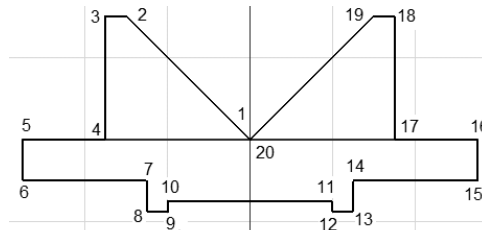

Figure 2-48 Sketch for Tutorial 1
9. Now you need to create the third line between points 3 and 4, refer to Figure 2-48. To do so, move the cursor downward in the graphics window. Enter **3** in the length input field, press TAB to switch to the angle input field and enter **90**; a line is created between the points 3 and 4.
10. Move the cursor toward left in the graphics window. Enter **2** in the length input field, press TAB to switch to the angle input field and enter **90** in it; a line is created between points 4 and 5, refer to Figure 2-48.
11. Move the cursor downward in the graphics window. Enter **1** in the length input field, press TAB and enter **90** in it; a line is created between points 5 and 6, refer to Figure 2-48.
13. Move the cursor downward in the graphics window. Enter **0.75** in the length input field, press TAB and enter **90** in the angle input field; a line is created between points 7 and 8, refer to Figure 2-48.
14. Move the cursor toward the right in the graphics window. Enter **0.5** in the length input field, press TAB and enter **90** in the angle input field; a line is created between points 8 and 9, refer to Figure 2-48.
15. Move the cursor upward in the graphics window. Enter **0.25** in the length input field, press TAB and enter **90** in the angle input field; a line is created between points 9 and 10, refer to Figure 2-48.
16. Move the cursor toward the right in the graphics window. Enter **4** in the length input field, press TAB and enter **90** in the angle input field; a line is created between points 10 and 11, refer to Figure 2-48.
17. Move the cursor downward in the graphics window. Enter **0.25** in the length input field, press TAB and enter **90** in the angle input field; a line is created between points 11 and 12, refer to Figure 2-48.
18. Move the cursor toward the right in the graphics window. Enter **0.5** in the length input field, press TAB and enter **90** in the angle input field; a line connecting points 12 and 13 is created, refer to Figure 2-48.
19. Move the cursor upward in the graphics window. Enter **0.75** in the length input field, press TAB and enter **90** in the angle input field; a line connecting points 13 and 14 is created, refer to Figure 2-48.
20. Move the cursor toward the right in the graphics window. Enter **3** in the length input field and **90** in the angle input field; a line connecting points 14 and 15 is created, refer to Figure 2-48.
21. Move the cursor upward in the graphics window. Enter **1** in the length input field, press TAB and enter **90** in the angle input field; a line connecting points 15 and 16 is created, refer to Figure 2-48.
22. Move the cursor toward the left in the graphics window. Enter **2** in the length input field, press TAB and enter **90** in the angle input field; a line connecting points 16 and 17 is created, refer to Figure 2-48.
23. Move the cursor upward in the graphics window. Enter **3** in the length input field, press TAB and enter **90** in the angle input field; a line connecting points 17 and 18 is created, refer to Figure 2-48.
24. Move the cursor toward left in the graphics window. Enter **0.5** in the length input field, press TAB and enter **90** in the angle input field; a line connecting points 18 and 19 is created, refer to Figure 2-48.